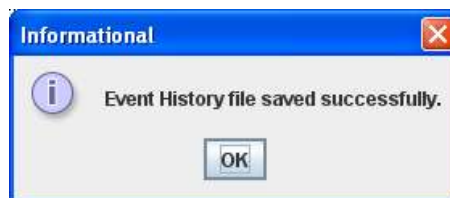

Figure 6-6. Event History File Save Message
4. When the message in Figure 6-6 tells you that the event history file has been saved successfully, click **OK** to remove the message.